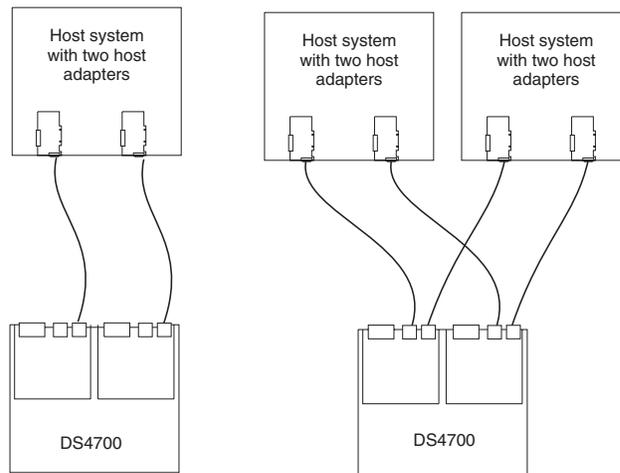

Figure 69. Examples of redundant host direct attached fibre channel configurations
- Redundant host and drive fibre channel loop configurations, as shown in Figure 69